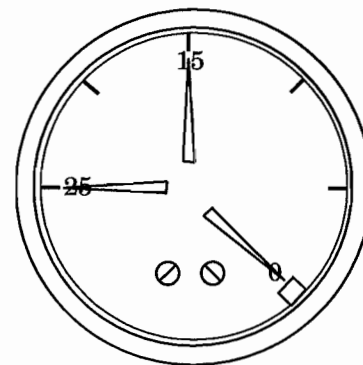

Fig. 5b
- g.** If span is high or low, turn span block as shown in Figure 5b on page 11.